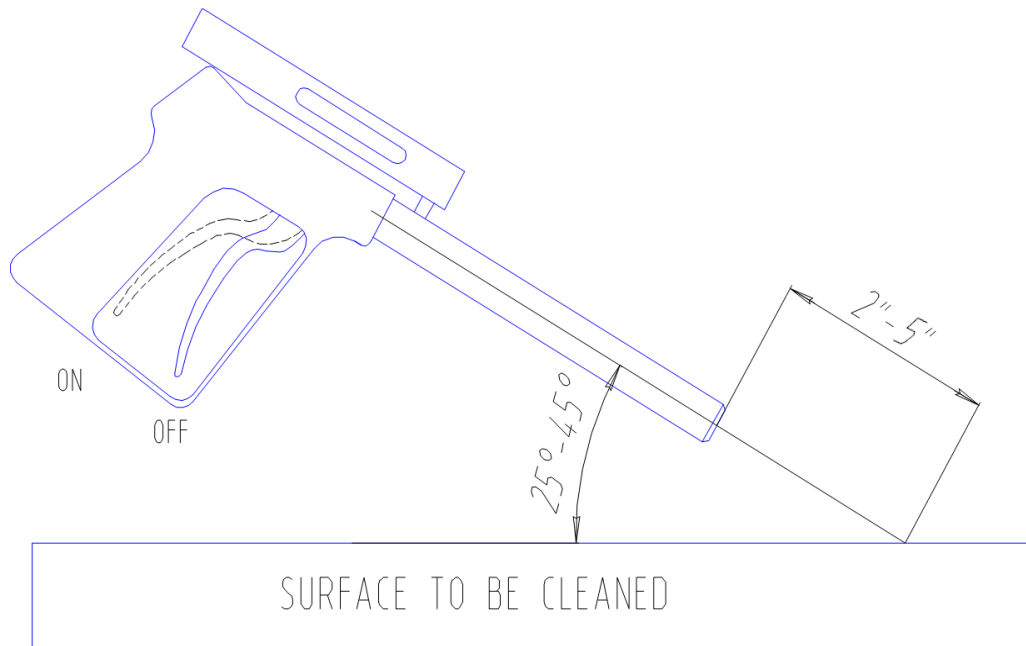

Figure 5.3 – Lance Position for Best Results
- 5) The lance trigger should be in open or “ON” position (See Figure 5.3) when throttling up the engine to engage the pressure pump. This will prevent the pressure pump from being in a loaded condition which will cause the clutch and belt to slip while they are engaging the pressure pump.
- 7) Activate the cleaning cavitation stream by squeezing the trigger to the open or “ON” position (See Figure 5.3). Release trigger to stop the water flow and direct to bypass.
- 8) If the diver operating the unit must be replaced or the cleaning operation must be interrupted or terminated, disengage the pressure pump by pushing the throttle lever in to the idle position (See Figure 5.1) **and then release the water pressure in the hose(s) by squeezing the lance trigger to the open or “ON” position (See Figure 5.3) while under water.** Revert back to step 3 of the operating instructions when the diver or replacement is ready to continue cleaning.
- Pull the lance trigger to the open or “ON” position (See Figure 5.3).
When the diver is ready to commence cleaning operations, ensure that the lance trigger is in the open or “ON” position (Figure 5.3), the lance is submerged in the water and the feed pump is operating prior to throttling up the engine. Ensure that the power unit operator and other people working in the vicinity of the power unit wear appropriate hearing protection when the engine is running.
2. The most efficient operating technique is to hold the nozzle 2-5 inches (5-12 cm) away from the surface to be cleaned and at a 25 to 45 degree angle to the surface being cleaned (See Figure 5.3). The diver needs to observe the shape of the cavitating jet cone. At greater depths, the higher ambient pressure will cause the jet cone to be shorter. The widest zone of the cone is the most efficient part of the cavitating jet. Placing the nozzle closer than 2 inches (5 cm) from the surface being cleaned will not allow for efficient cavitation performance and will degrade the cleaning capability of the CaviBlaster™ system.
5. Squeeze the lance trigger to the open or "ON" position (See Figure 5.3) to release the water pressure remaining in the hose(s) **while the lance is submerged**.